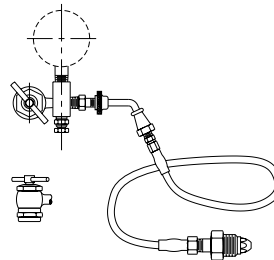
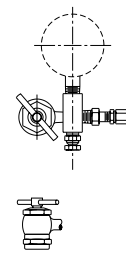

FIGURE 1
FIGURE 2
It is recommended to use pre-charging and gauging assembly as shown in Figure 1 (Part #1445950000, right-hand thread; Part #1445960000, left-hand thread), and in Figure 2 Part #0871000000 for 1-15 gallon & Part #0871020000 for 10-150 cu. in. accumulator rated for 3,000 psi or less. For accumulators rated for 5,000 psi, as well as the 25-40 gallon, 3,000 psi accumulators, use assembly shown in Figure 6 (Part #1449120000). If other equipment is used, make sure it is compatible with the gas valve assembly and nitrogen source. All components must be rated for a pressure at least as high as the nitrogen source. **It is strongly recommended that the nitrogen bottle used have a high pressure regulator.**
- (E) Turn gas chuck "T" handle all the way down. This will depress core in gas valve.
- (F) Crack open nitrogen bottle or regulator valve and **slowly** fill accumulator. **Caution:** if the pre-charge is not done slowly, the bladder may suffer permanent damage. Shut off when gauge indicates 100 PSI above desired pre-charge. (Note: it is recommended that pre-charge pressure be at least 25% of maximum system pressure.) Damage to bladder may occur if this ratio is not maintained or exceeded. For shock suppression applications, pre-charge is usually set at about 65% of system pressure. When the accumulator is used to supplement pump flow, auxiliary power supply or leakage compensation, pre-charge is usually set at approximately 80% of minimum system pressure.
- (G) Let the pre-charge set for 10 to 15 minutes. This will allow the gas temperature to stabilize. If the desired pre-charge is exceeded, close nitrogen bottle valve, then slowly open bleed valve until desired pressure is reached (Figure 1). Do not reduce pre-charge by depressing valve core. High pressure may rupture rubber valve seat.
- (H) When finished pre-charging accumulator, turn "T" handle all the way out on gas chuck (Figure 1), then open bleed valve.
- (I) Hold gas valve from turning, loosen swivel nut, remove assembly.
- (J) Install gas valve cap if part of assembly (10-15 in. lbs.) (11.5-17 cm kg) and valve guard.
TOP REPAIRABLE UNITS IN CONJUNCTION WITH FIGURES 1 OR 2